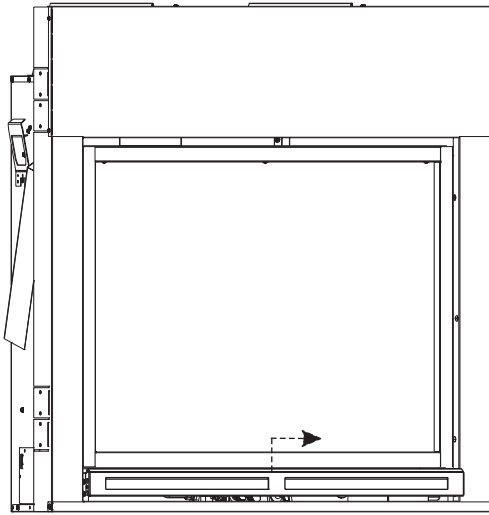

Figure 17
1. Make sure power is turned off. Tilt and pull lower panel to remove from bottom assembly. See Figure 17.